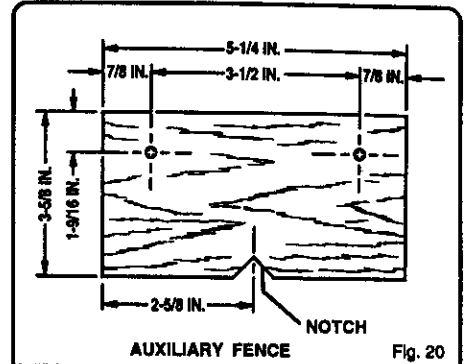

Fig. 20
3. Cut a notch as shown in figure 20 for viewing indicator mark and centerline markings on boards.
5. Using screw holes in adjustable fence for a pattern, mark screw hole locations on auxiliary fence. **NOTE:** See figure 20 for screw hole locations and dimensions.